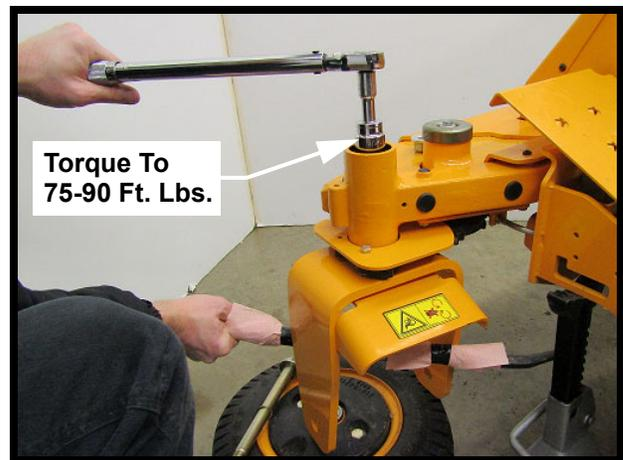

FIGURE 14
24. Locate Item #3 (736-05033A) Wave Washer and one (1) of Item # 2 (712-04338A) 3/4-16 Hex Flange Top Lock Nut.
27. Use a pry bar to hold the Yoke Assembly while torquing the 3/4-16 Hex Flange Top Lock Nut to 75-90 Ft. Lbs. See Figure 14.